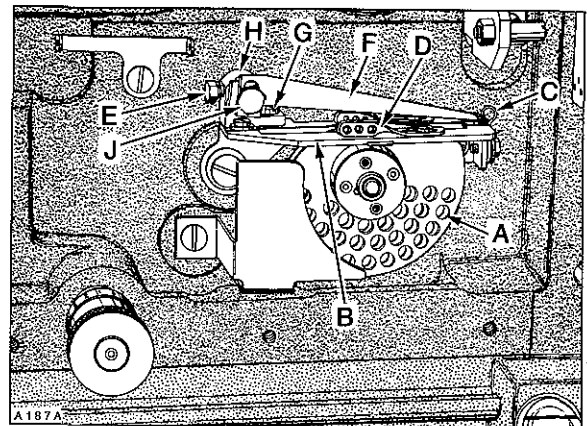

Fig.21
Looper thread take-up (A, Fig. 21) must be centered front to back in cast-off plate (B). It should also be positioned so as the needle bar is descending, the looper threads are "cast-off" the highest lobe of looper thread take-up when the point of the left needle is even with the bottom of its looper blade.
collar by applying pressure on the collar CLOCKWISE while tightening screw (A) securely. Cast-off plate (B, Fig. 21) should be positioned horizontally. Which can be adjusted by repositioning latch (C). Set adjustable eyelets (D) in the center of their mounting screws. More or less, looper thread can be supplied in the stitch by moving adjustable eyelets to the right or left respectively.